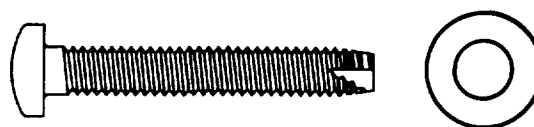

Fig. 78 - Mounting Screw and Washer
4. Put a washer on each of the *mounting screws*. (Figure 78)